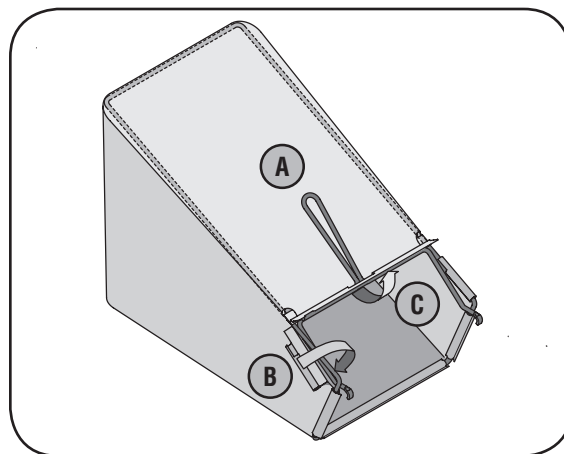

Figure 3-4
- a. Place bag over frame (black plastic side is the bottom of bag.) Insert the hooks on the frame through the holes in the side plastic channels of the bag. See Figure 3-4.